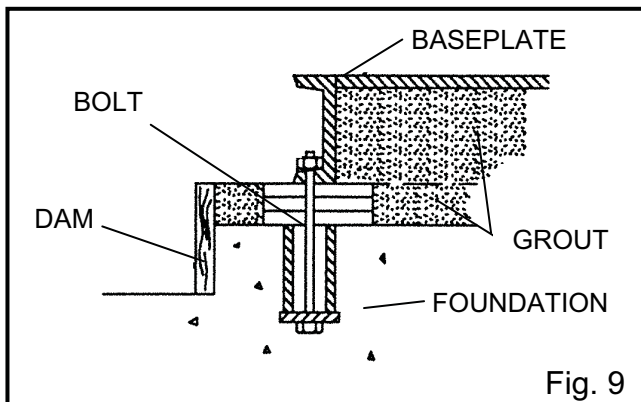

Fig. 9
8. Fill remainder of sub-base with grout. Remove air as before (Fig. 9)